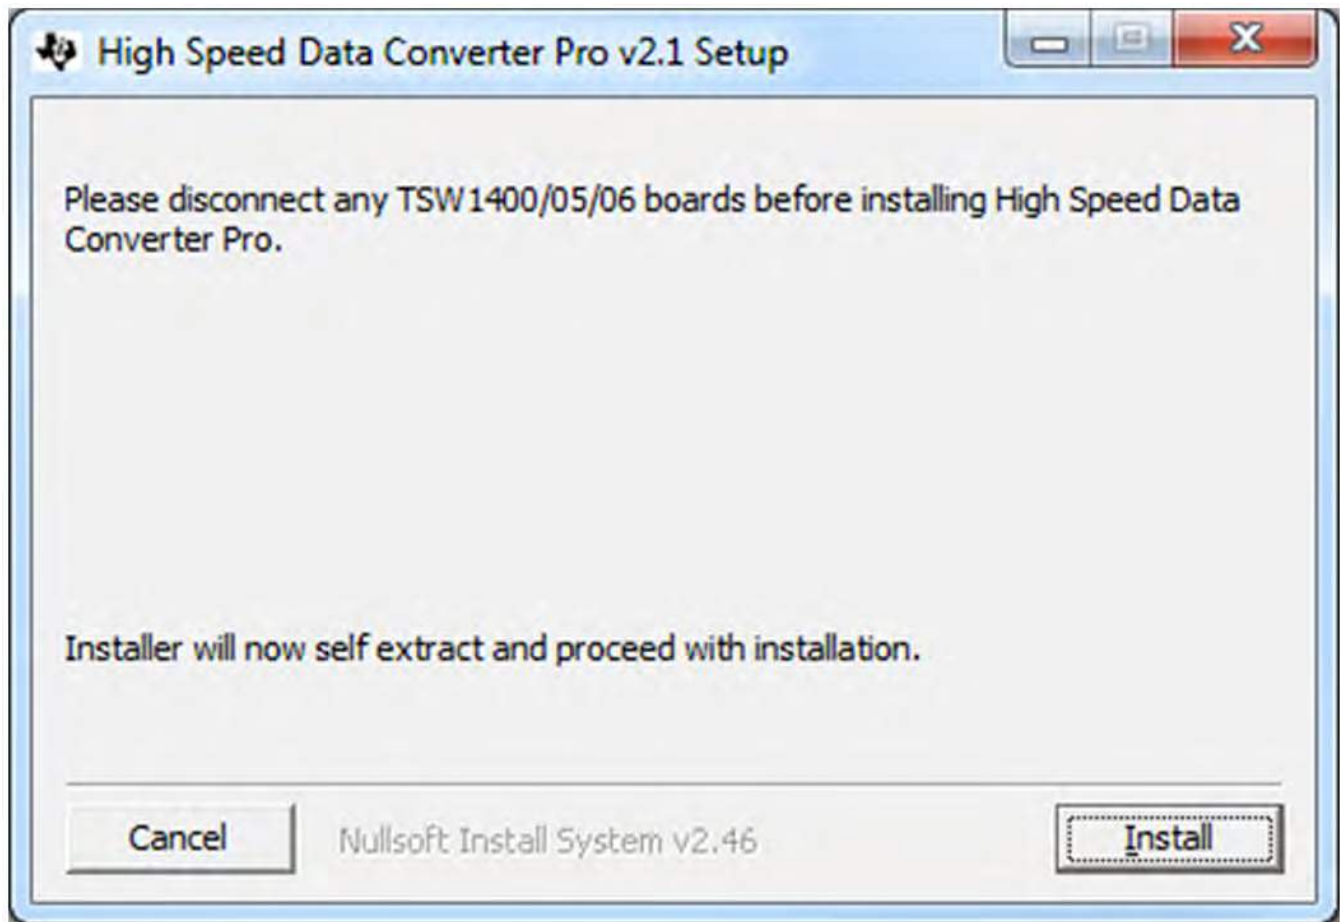

Figure 27. HSDCPro Install (Begin)
- Unzip the saved folder and run the installer executable to obtain the pop-up shown in Figure 27.